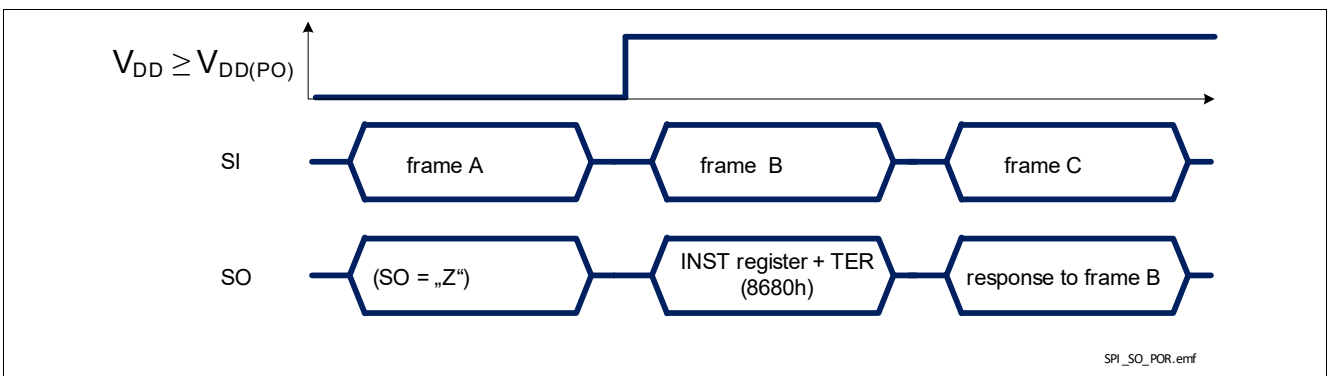

Figure 36 TLE75080-ESH response after coming out of Power-On reset at  $V_{DD}$
- when TLE75080-ESH logic supply comes out of Power-On reset condition or after a Software Reset, as shown in **Figure 36**